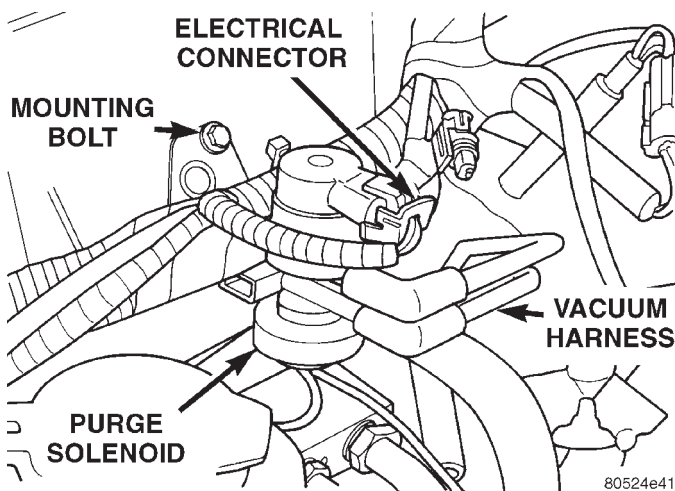
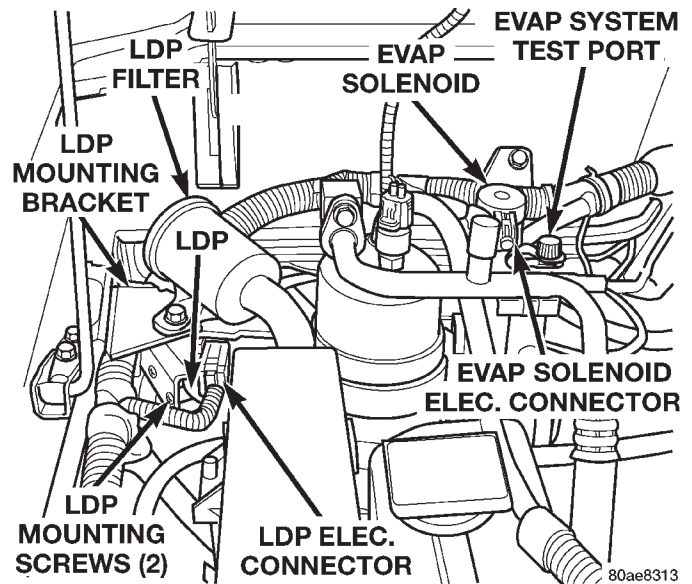

Fig. 9 EVAP Canister Purge Solenoid (Without LDP)
Fig. 10 EVAP Canister Purge Solenoid (With LDP)
The solenoid attaches to a bracket located in right-rear side of engine compartment (Fig. 9) or (Fig. 10). The top of the solenoid has the word UP or TOP on it. The solenoid will not operate properly unless it is installed correctly.
The LDP is located in the right-rear side of engine compartment (Fig. 10). The LDP filter is located above the LDP (Fig. 10). The LDP and LDP filter are replaced (serviced) as one unit.
- (1) Carefully remove hose at LDP filter.
- (2) Remove LDP filter mounting bolt and remove from vehicle.
- (3) Carefully remove vapor/vacuum lines at LDP.
- (4) Disconnect electrical connector at LDP.
- (5) Remove 2 LDP mounting screws (Fig. 10) and remove from vehicle.